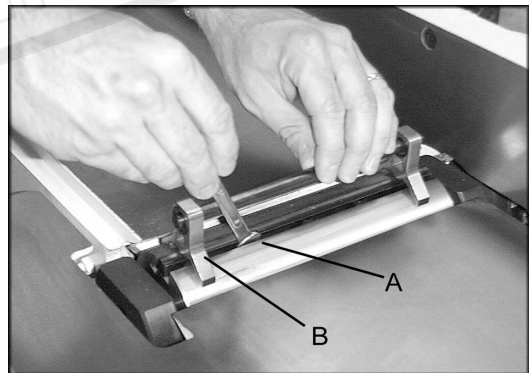
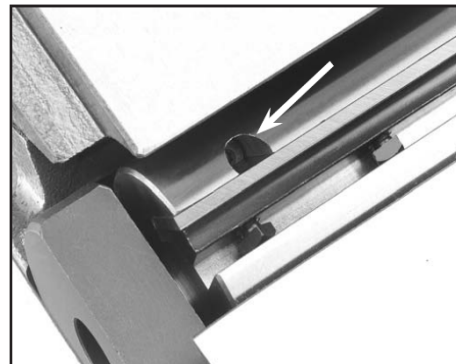

Figure 12
Figure 13
7. If blade is higher or lower at one point, Loosen cutterhead gib bolt (A, Fig. 12) by turning clockwise as viewed from the infeed table.
8. Place the knife setting gauge (B, Fig. 12) on the cutterhead over the blade. Find the jack screws through the access holes in the cutterhead(Fig. 13) and rotate the jack screws to raise or lower the knife. When the knife is set correctly, it will barely touch the middle pad of the knife setting jog. Snug the gib bolts tight enough to just hold the knife in place. Repeat STEP 7&8 with the rest of the knives.